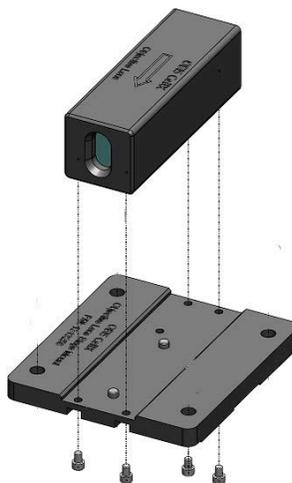

Figure 4-24. Objective Lens, Stage Mount Bracket, and Screws
1. Put the objective lens (top) in the center slot of the lens stage mount (bottom). Refer to Figure 4-24.